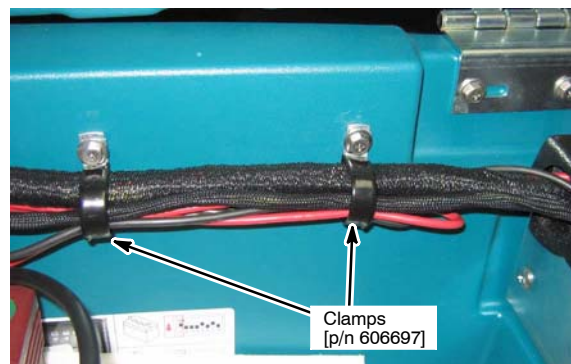

Fig. 11
9. Remove factory installed clamps and replace with larger cable clamps [p/n 606697] to secure *ec-H2O* harness (Figure 11).